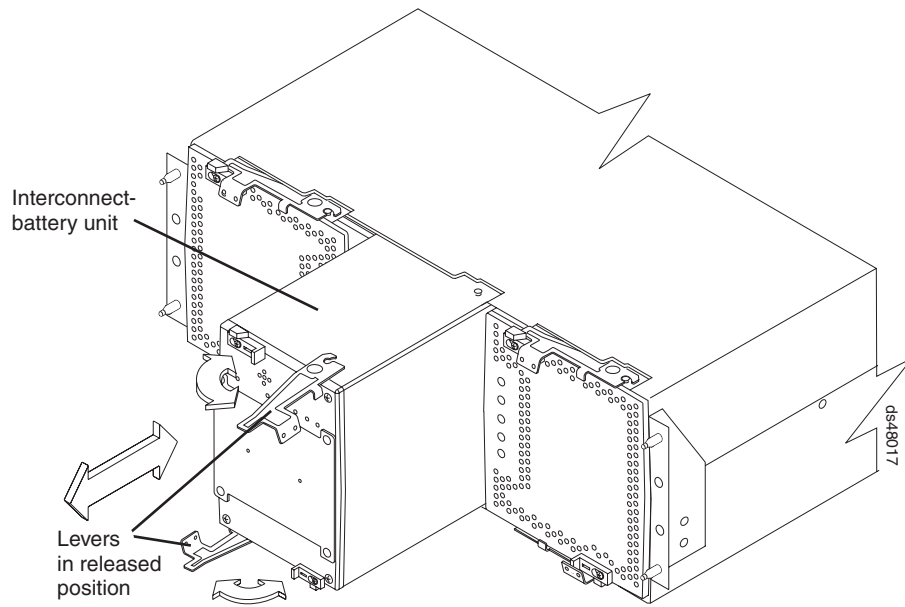

Figure 93. Removing an interconnect-battery unit from the DS4800
7. Unlatch both the top and bottom levers of the interconnect-battery unit and rotate both levers straight out simultaneously to remove the failed interconnect-battery unit. (Figure 93 on page 151 shows the interconnect-battery unit sliding from the storage subsystem chassis.)